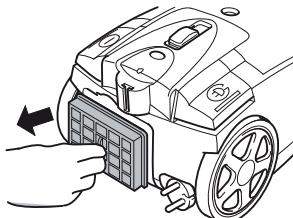

Fig. 28
3. Remove the hygienic exhaust filter (Fig. 28).